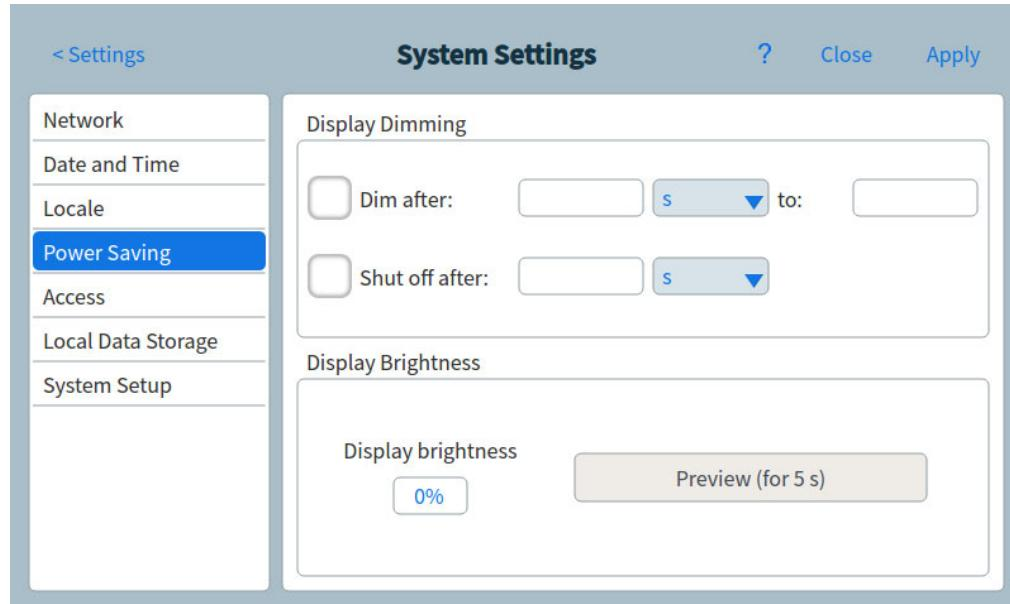

Figure 51. Power Saving page
- From the System Settings page, select the **Power Saving** page selection button. The Power Saving page appears. See Figure 51.